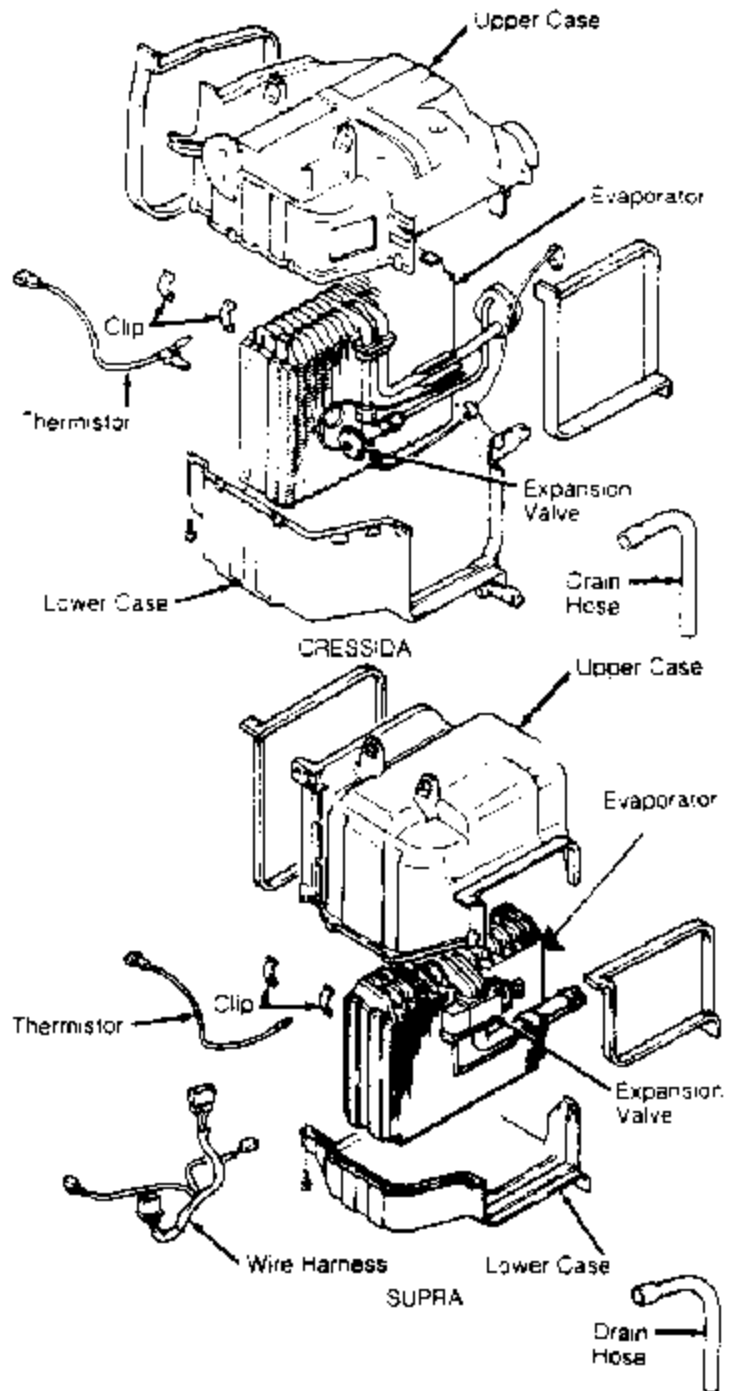

Fig. 11: Exploded View of Evaporator Assemblies
4) Remove evaporator. Disconnect liquid tube from inlet fitting of expansion valve. Remove packing and heat sensing tube from suction tube of evaporator. Remove expansion valve. See Fig. 11.